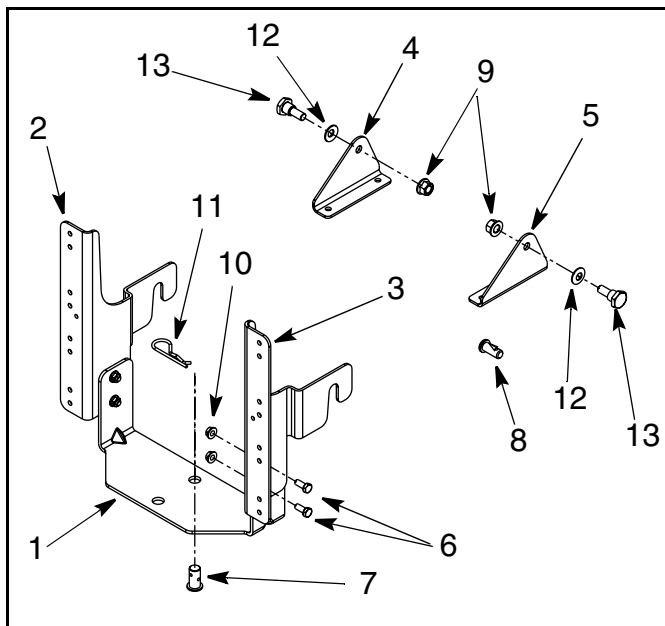

Figure 1
- Install the four (4) Hex Head Screws (Ref. No. 6) through the LH and RH Support Catcher Brackets and Support Cross Bracket and secure with four (4) Flange Lock Nuts (Ref. No. 10). Do not tighten, leave slightly loose. Refer to Figure 1.